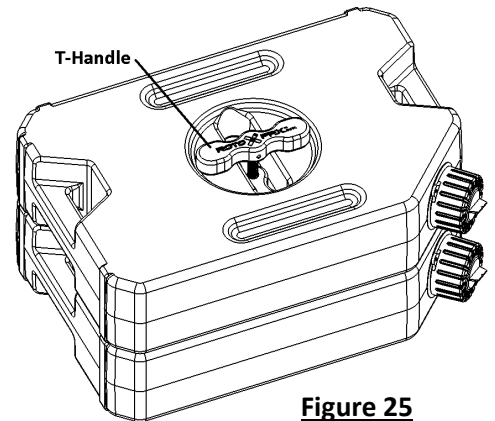

Figure 25
Step 3 - Tighten T-Handle or other handles (LOX or DLX) to desired tension (see **Figure 25**).